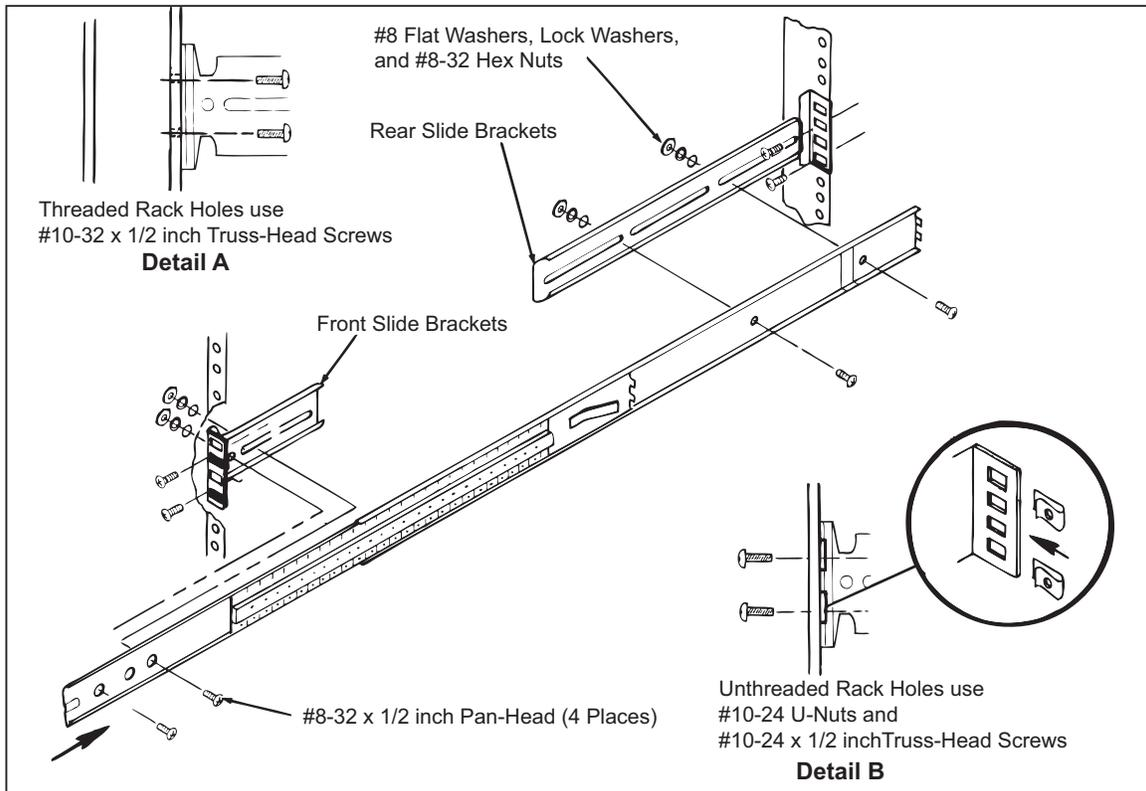

Figure 3. Install Slides into the Equipment Rack
1. Install the front slide brackets (shorter pair) to the rack mounting rails. See Figure 3. If your rack has threaded mounting rails, use two #10-32 x 1/2-inch truss-head screws. See Figure 3, Detail A. If your rack has unthreaded mounting rails, use two #10-24 x 1/2-inch truss-head screws and two #10-24 U-nuts. See Figure 3, Detail B.
3. Attach the slides to the front brackets with two #8-32 x 1/2-inch pan-head screws, two #8 flat washers, two #8 lock washers and two #8 hex nuts. See Figure 3. Align the access hole in the slide by moving the slide in and out as necessary to access the screw heads.
1. With assistance, lift the Product and insert the end of each slide bar (on the Product) into the appropriate slide-bar on the equipment rack. See Figure 3.